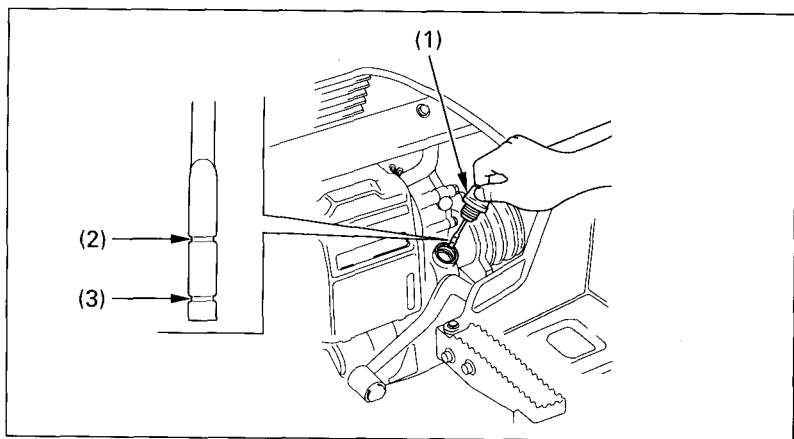

Fig. 4-10 (1) Oil filler cap/dipstick
4. After a few minutes, remove the oil filler cap/dipstick (Fig. 4-10) from the rear crankcase cover and wipe it clean.
5. Insert the dipstick without screwing it in, then remove the dipstick and check the oil level. The oil level should be between the upper level mark (2) and the lower level mark (3) on the dipstick.
Recommended Oil Viscosity: SAE 10W-40. Other viscosities shown in Fig.4-10 may be used when the average temperature in your riding area is within the indicated range.
1. With the FOURTRAX on level ground, remove the oil filler cap/dipstick from the rear crankcase cover (Fig. 4-10).